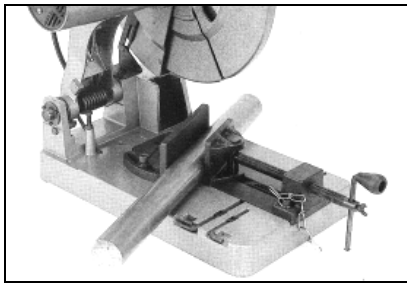

Fig 5
To extend the clamping range, various mounting positions for the vise jaw (G, Fig 5) are provided.
The vice pressure plate (F) will automatically match the work piece (Fig 5).